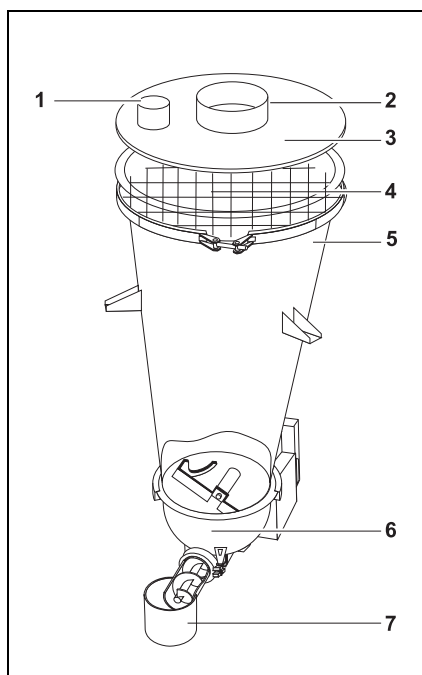

Fig. 2.4 Safety devices
- At the agitator hopper (see Fig. 2.4/6)
- At the feed screw tube (see Fig. 2.4/7)
- At the hopper (see Fig. 2.4/5)